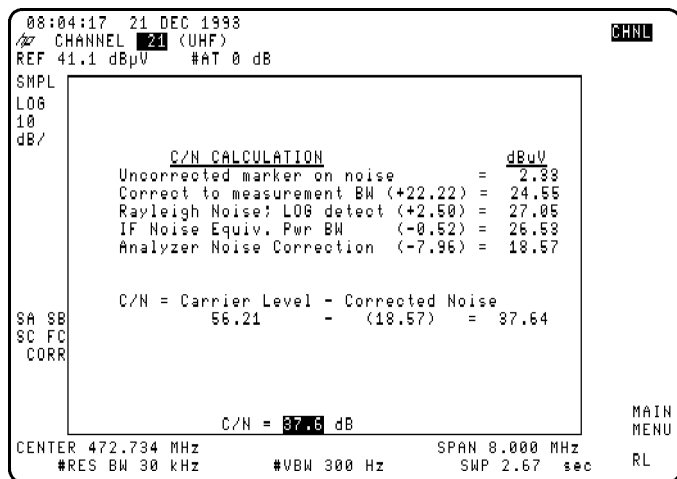

Figure 2-21. Carrier-to-Noise, More Information
6. Pressing **MORE INFO** displays the carrier-to-noise calculation. See Figure 2-21.